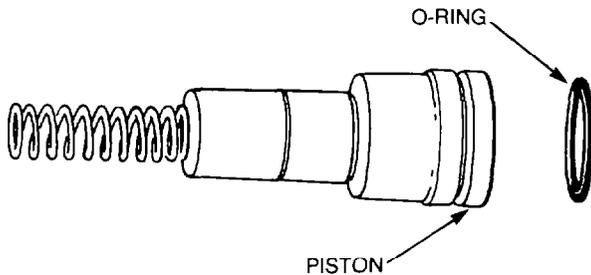

Figure 197 — Piston and O-ring
- e. Remove and discard the piston O-ring (see Fig. 197).